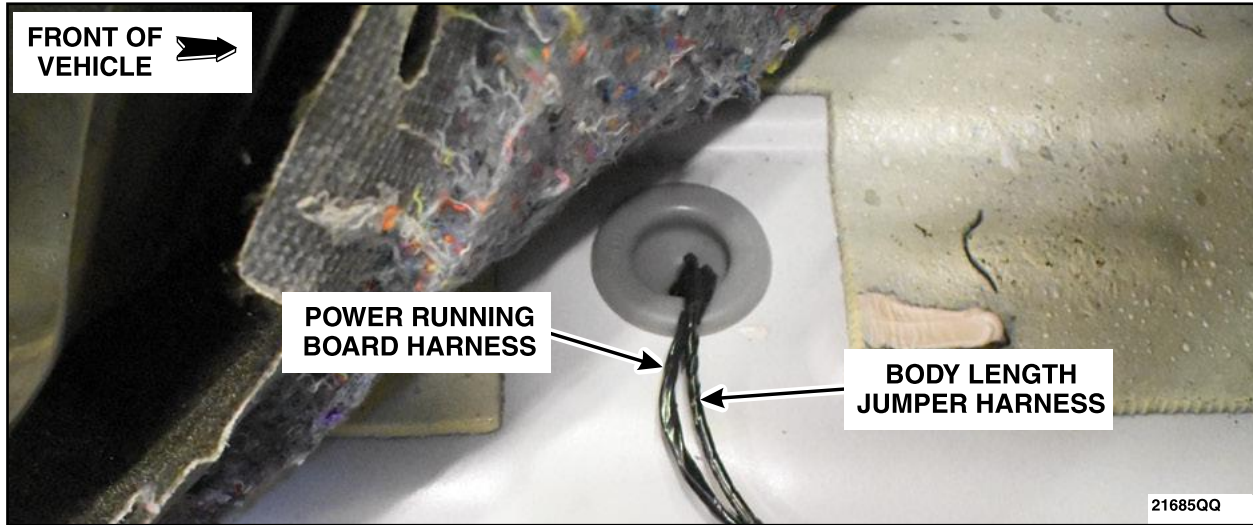

FIGURE 43
- b. **If equipped with power running boards**, route the Body Length Jumper Harness through the center of the existing grommet along side of the existing wire. See Figure 43.